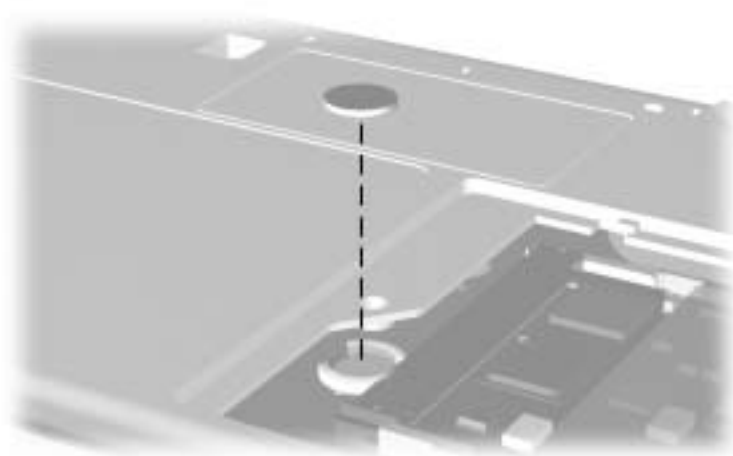

Figure 5-14. Removing the Disk Cell RTC Battery
3. Remove the RTC battery from its socket on the system board (Figure 5-14).